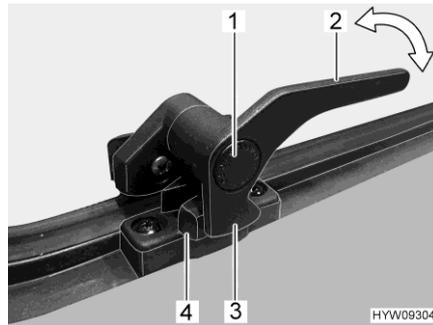

Fig. 57 Catch lever ("closed" position)
- Press the safety knob (Fig. 57,1) and keep it pressed.
- Turn the catch lever (Fig. 57,2) a quarter turn towards the centre of the window.
- Turn the catch lever (Fig. 57,2) a quarter turn towards the window frame. The locking catch (Fig. 57,3) on the catch lever is entirely on the inner side of the window catch (Fig. 57,4).
- "Firmly closed" (Fig. 57)